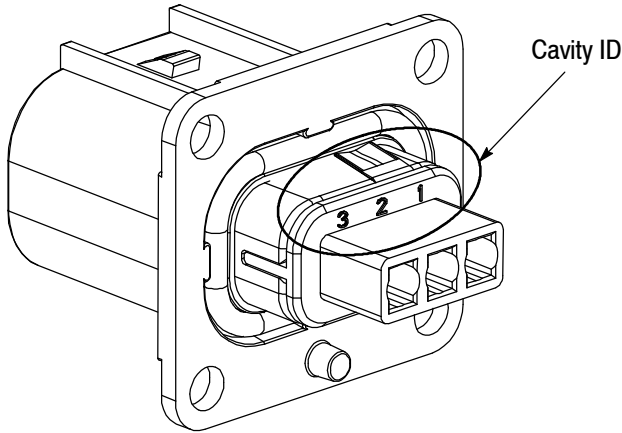
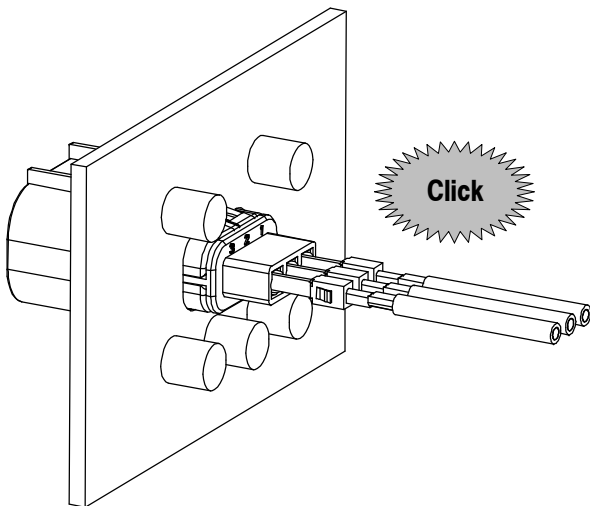
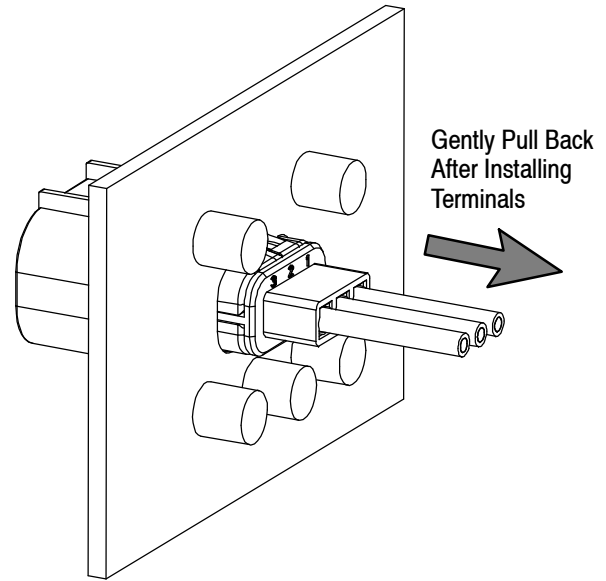

Figure 6
Figure 7
Figure 8
5. Note the cavity number on the cable entry end of the header. See Figure 6. Insert the blade contacts into the header inner housing until they are fully locked as shown in Figure 7. Verify that the contact is completely inserted as shown in Figure 8 by gently pulling back on the conductor.